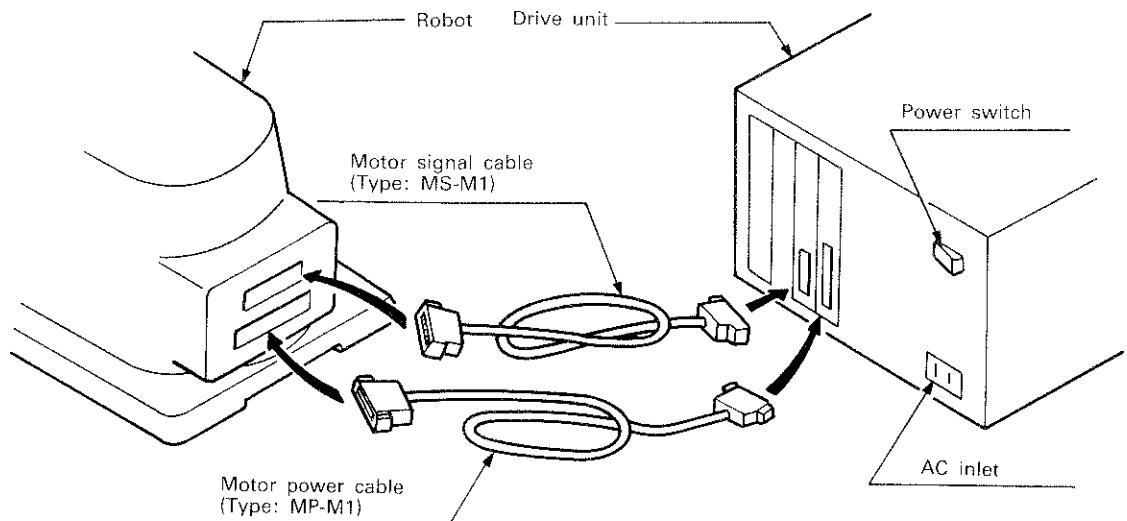
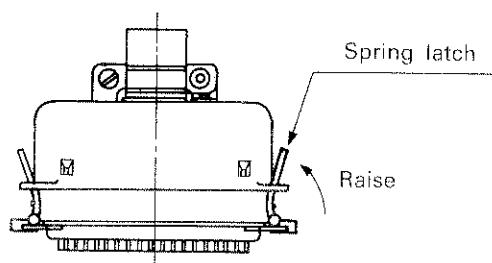

Fig. 2.1.7
Fig. 2.1.8 Securing the Connector
- (1) Fig. 2.1.7 shows the cable connections.
- (2) Before attempting to connect cables, make sure that the power switch on the rear panel of the drive unit is in the OFF position.
- (3) Plug the power cord into the AC inlet on the rear panel of the drive unit.
- (4) Connect the motor signal cable and motor power cable to the corresponding connectors in the robot and drive unit.
- (5) The two cables have no specific orientation for connection. Either end can be hooked up to either unit.
- (6) When securing the connector, be sure to raise the spring latches on both sides of the connector as illustrated in Fig. 2.1.8.
- (7) Use special care when routing the cables. Do not pull hard or bend the cables, as an open-circuited cable or damaged connector could result.